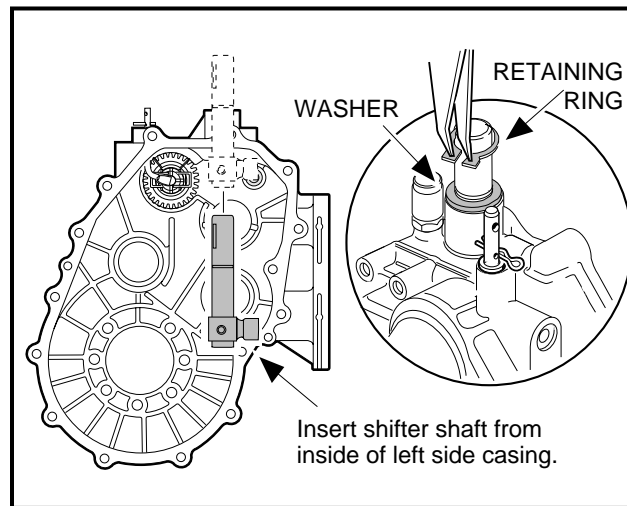

Figure 16-72 Insert Shifter Shaft
6. Install the shifter shaft into the left (driver side) case as shown (**Figure 16-72, Page 16-30**). Then install the washer and using external snap ring pliers (.070 tip), install retaining ring on the shifter shaft outside of the case (**Figure 16-72, Page 16-30**). Make sure the retaining ring is in the groove of the shaft.